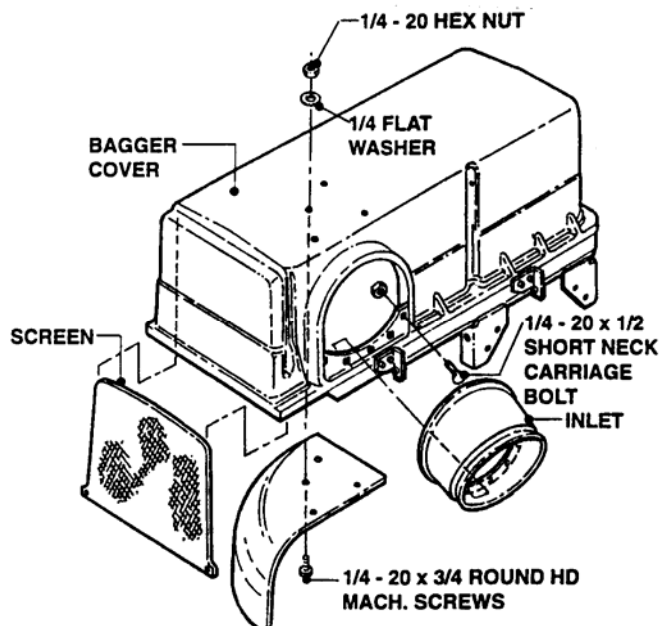

FIGURE 5
STEP 5: Cover Hood Assembly. Install sector to the inside of cover using (3) 1/4 x 3/4" carriage bolts, 1/4 flat washers and 1/4 hex nuts. Slide screen into cover. Install inlet onto cover using (5) 1/4 x 1/2" carriage bolts and 1/4 hex flange nuts. See Figure 5.